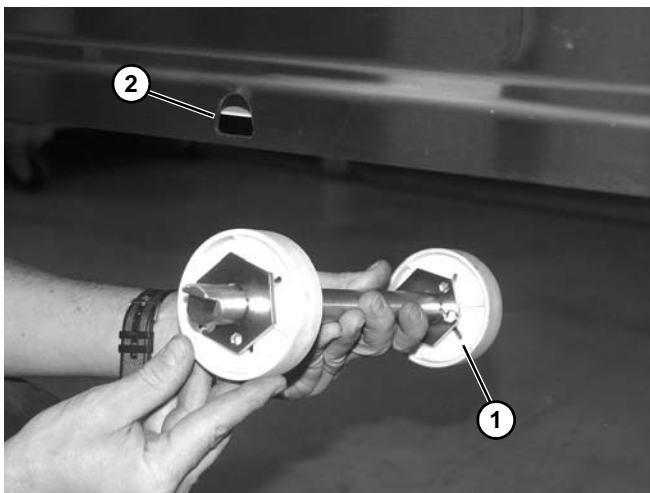

Figure 100
2. Remove belt returns (**Figure 100, item 1**) from slotted holes (**Figure 100, item 2**) on each side of conveyor frame at location you are separating belt.